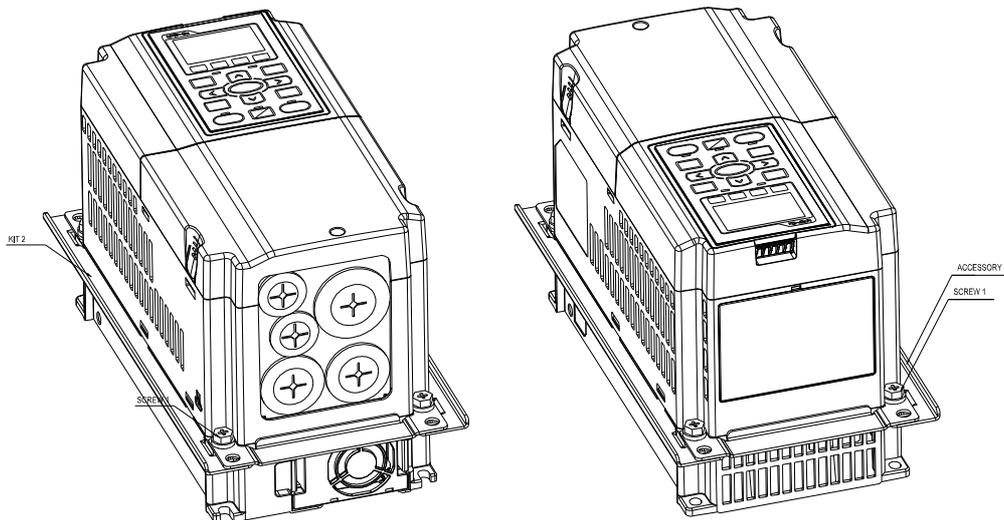

Figure 2
2. Fasten screw*2(M6) and accessory 2 &3. Screw torque: 25~30kg-cm (21.7~26lb-in). (figure 2)